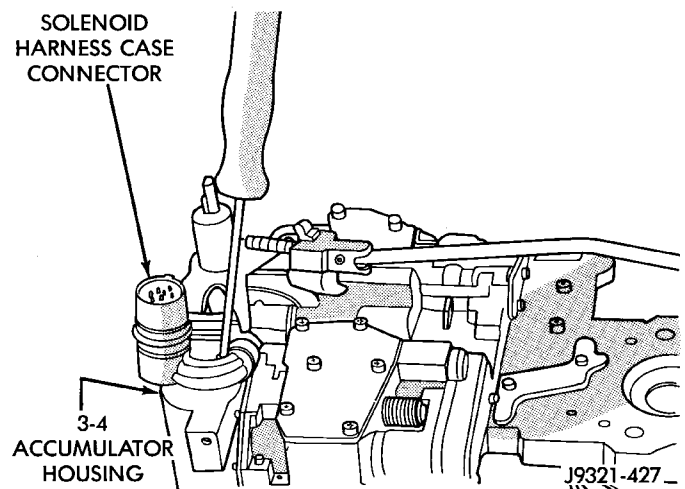
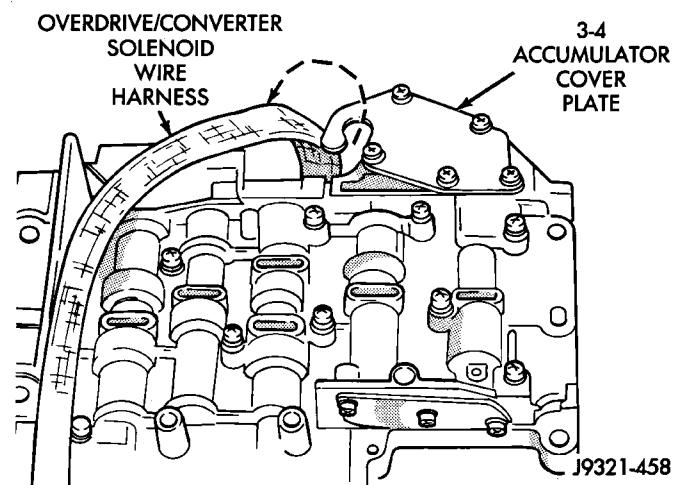

Fig. 93 Solenoid Harness Case Connector Shoulder Bolt
Fig. 94 Solenoid Harness Routing
(17) Lubricate solenoid case connector O-rings and shaft of manual lever with light coat of petroleum jelly.
(18) Obtain new fluid filter for valve body but do not install filter at this time.
(19) If line pressure and/or throttle pressure adjustment screw settings were not disturbed, continue with overhaul or reassembly. However, if adjustment screw settings **were** moved or changed, readjust as described in Valve Body Control Pressure Adjustment procedure.
(20) Attach solenoid case connector to 3-4 accumulator with shoulder-type screw. Connector has small locating tang that fits in dimple at top of accumulator housing (Fig. 93). Seat tang in dimple before tightening connector screw.
(21) Install solenoid assembly and gasket. Tighten solenoid attaching screws to 8 N·m (72 in. lbs.) torque.
(22) Verify that solenoid wire harness is properly routed (Fig. 94). **Solenoid harness must be clear of manual lever and park rod and not be pinched between accumulator housing and cover.**